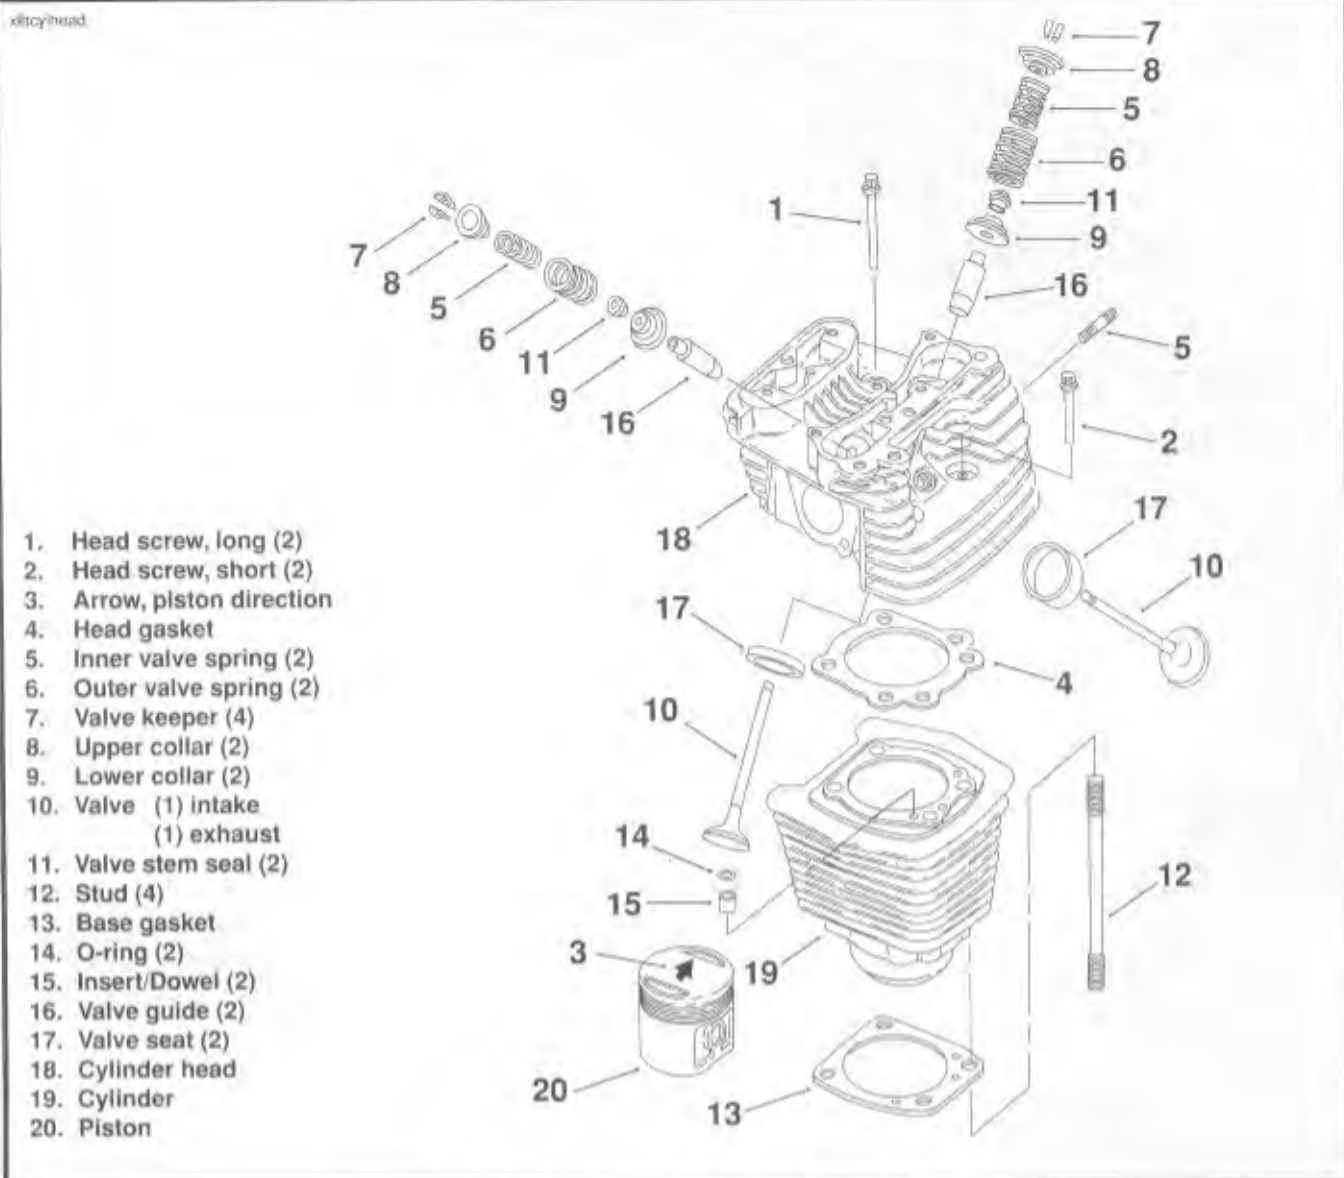

Figure 3-8. Cylinder Head, Cylinder and Piston
11. See Figure 3-8. Remove cylinder head (18), head gasket (4), and O-rings (14).
1. See Figure 3-8. Compress valve springs (5 and 6) with VALVE SPRING COMPRESSOR (Part No. HD-34736B) (as shown in Figure 3-10).
2. See Figure 3-8. Remove keepers (7), upper collar (8) and springs (5 and 6). Mark keepers for reassembly in original position.